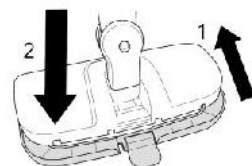

Fig. 12
5. Refit the carpet glider if required (fig. 12).